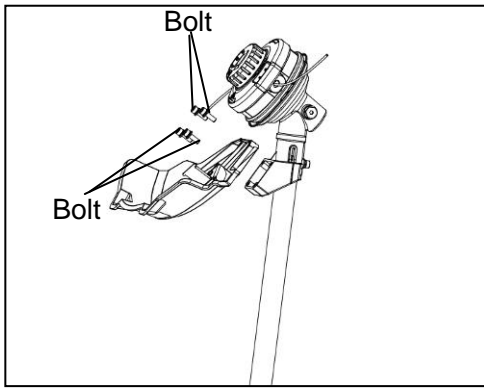

Fig. 4A
2. Lift the trimmer head and face it upward. Align the four mounting holes in the guard with the four assembly holes at the base of the shaft. Ensure that the guard's internal surface faces towards the trimmer head. (Fig. 4A)